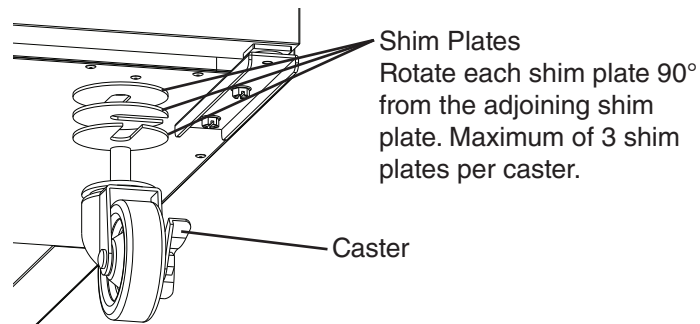

Fig. 4
3) Position the necessary number of shim plates in place (no more than 3 per caster). If using more than one shim plate, rotate each additional shim plate 90° from the adjoining shim plate so that the slots are not aligned. See Fig. 4.